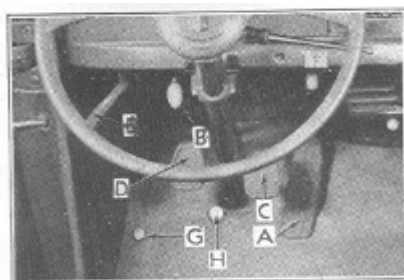

Figure 5
ACCELERATOR PEDAL (A), Fig. 5, controls the speed of the car. Never pump the accelerator when starting the engine as it will result in flooding. When starting a cold engine, the accelerator pedal should be pressed down one-half way and released slowly. With a warm
BRAKE PEDAL (C), Fig. 5, hydraulically operates brakes on all wheels. In event of disablement of the hydraulic system, continued pressure on the pedal automatically applies the brakes on the rear wheels mechanically.
CLUTCH PEDAL (D), Fig. 5, should be depressed fully to floor board when shifting gears. The clutch pedal must be depressed before pressing the starter button or the starter will not operate on cars equipped with Hudson Drive-Master. When starting the engine, particularly when it is cold, depressing the clutch pedal manually will disconnect the load of the transmission from the starting motor and facilitate starting.
HEADLAMP FOOT SWITCH (G), Fig. 5, controls country (upper) and traffic (lower) beams. When meeting oncoming traffic and headlamp beam indicator shows red, depress foot switch once and release for lower beam. Pressing switch the second time restores beam to upper position.
RADIO FOOT SWITCH (H), Figure 5, (optional equipment). Press lightly to reduce volume and press hard to change station.